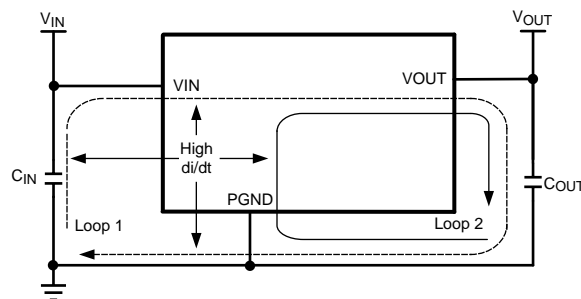

Figure 52. High Current Loops
From an EMI reduction standpoint, it is imperative to minimize the high di/dt paths during PC board layout as shown in Figure 52. The high current loops that do not overlap have high di/dt content that will cause observable high frequency noise on the output pin if the input capacitor ( $C_{\text{IN}}$ ) is placed at a distance away from the LMZ12008. Therefore place  $C_{\text{IN}}$  as close as possible to the LMZ12008 VIN and PGND exposed pad. This will minimize the high di/dt area and reduce radiated EMI. Additionally, grounding for both the input and output capacitor should consist of a localized top side plane that connects to the PGND exposed pad (EP).